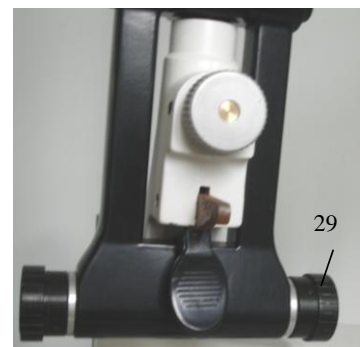

Fig.19
Turn the slit width control knob (29) the slit width will be changed from 0mm to 12mm.the slit becomes a circle at the 12 mm size . the scale on the knob indicates the width value approximately(Fig.19).